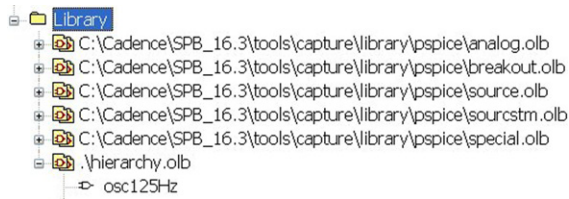

FIGURE 20.23
9. In the Project Manager, you should see the hierarchy.olb library file added to the **Outputs** folder. Move the hierarchy.olb from the **Outputs** folder (or you can cut and paste) to the **Library** folder as shown in **Figure 20.23** and expand the library to see the osc125Hz library part.